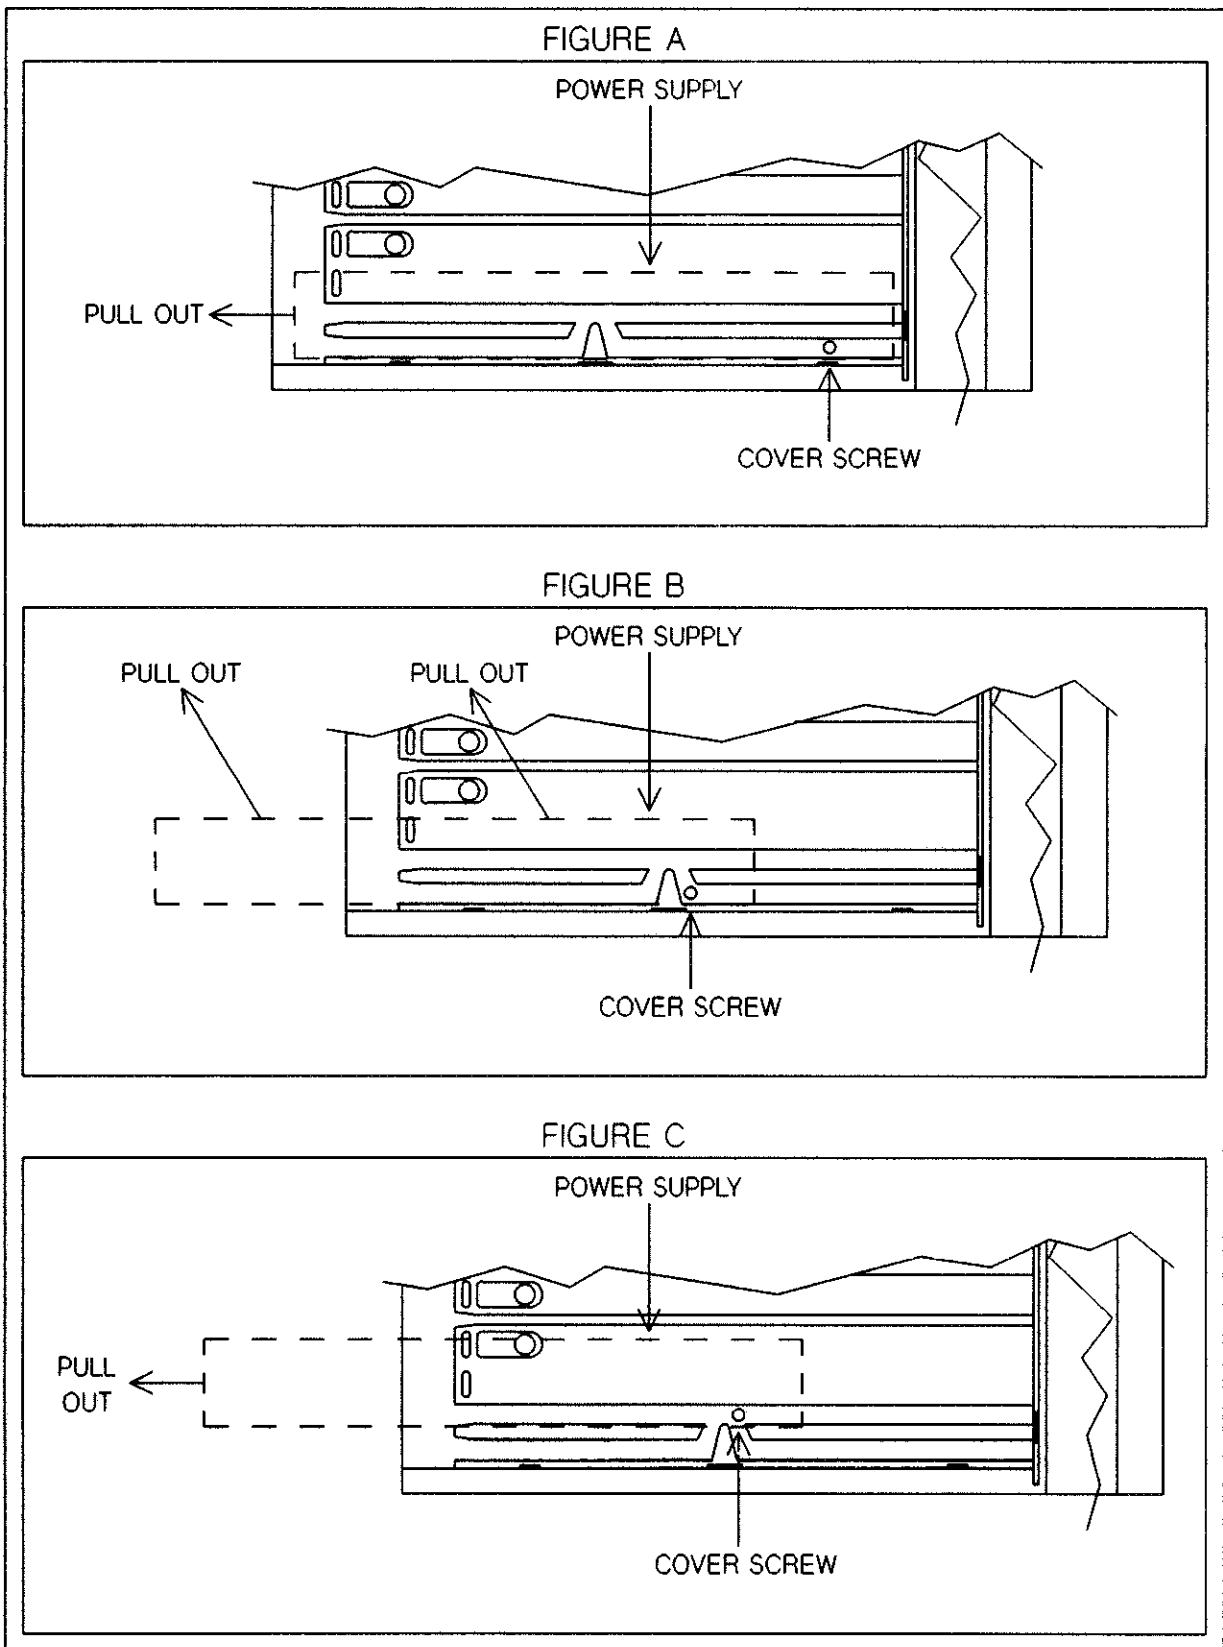

Figure 4-3 Power Supply Removal
9. Refer to Figure 4-3-A (Figure A in Figure 4-3). Note that the figure shows the present location of the power supply module. The dashed lines in the figure represents the module.
*All figures in Figure 4-3 show a partial inside right view (with rear of instrument facing forward) of the chassis, as viewed from the top. The dashed lines in all figures represents the power supply module.*
10. Figure 4-3-A shows the direction at which the power supply module is to be pulled out first. Hold the power supply module by the rear panel. Carefully pull it straight out toward the rear of the instrument until it stops. The module should now be partially pulled out of the chassis as shown in Figure 4-3-B.
11. Figure 4-3-B shows the direction at which the module is to be pulled out next. However, before pulling on the module, locate the slot 7 grounding spring under the top part of the chassis. Depress the spring and then pull the power supply module to the left until it stops. Make sure the spring is depressed before moving the power supply module or damage to the spring can result. The module should now be in the position shown in Figure 4-3-C.
12. Figure 4-3-C shows the direction at which the module is to be pulled out last. Pull the power supply module completely out of the chassis until the power switch push-rod clears the chassis. Make sure that the module is pulled straight out and completely out to prevent the power switch push-rod from breaking. Place the module gently on a flat surface.